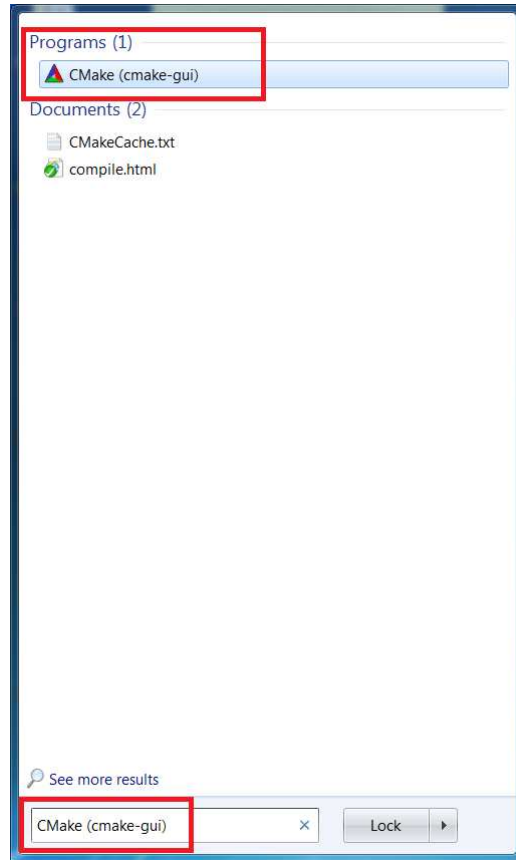

Figure 23. Find CMake to Build OpenCV
3. Once the files have extracted, open the Start Menu. Search for and select “CMake (cmake-gui)” as shown in Figure 23.